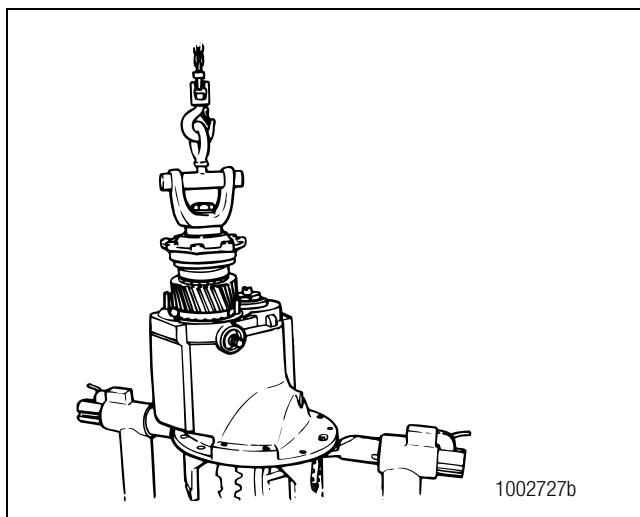

Figure 3.23
- A. Lift the input shaft assembly until the bearing cage is separated from the carrier. If necessary, tap on the bearing cage with a brass or plastic mallet to separate the cage from the carrier. Figure 3.23.